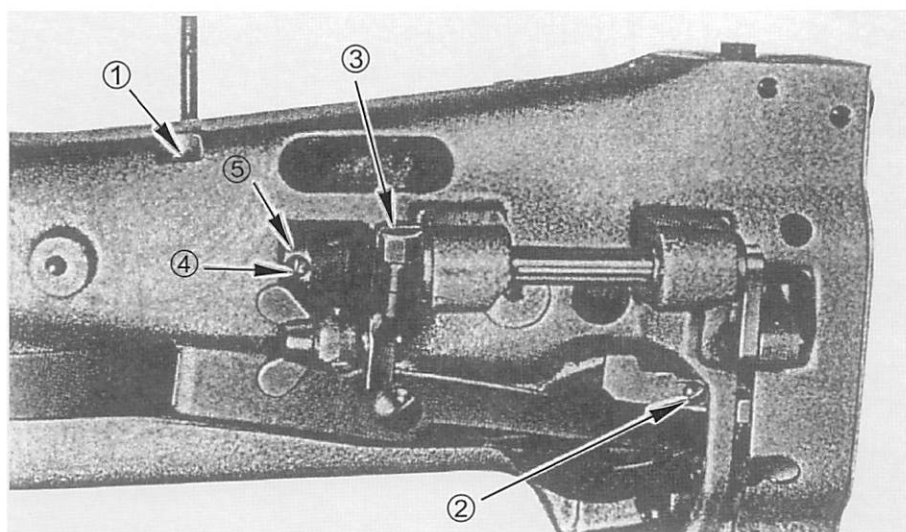

Fig. 23
Loosen the screw (①, Fig. 23) sufficiently, raise the presser bar lifter and loosen the set screw (②, Fig. 23). Move the lifting presser foot (A, Fig. 7) up or down as may be required so as to get the correct height and tighten the screws.
To adjust this, lower the presser bar lifter, holding the vibrating presser foot (B, Fig. 7) and loosen the hexagon screw (③, Fig. 23) and move the presser foot up or down as may be required. After setting the position, tighten the screw.
To adjust this, set the lift of the alternating presser feet to equal, loosen the two screws (④, Fig. 23) and adjust the rotating position of the cam (⑤, Fig. 23) faster or slower as may be desired, and tighten the screws.